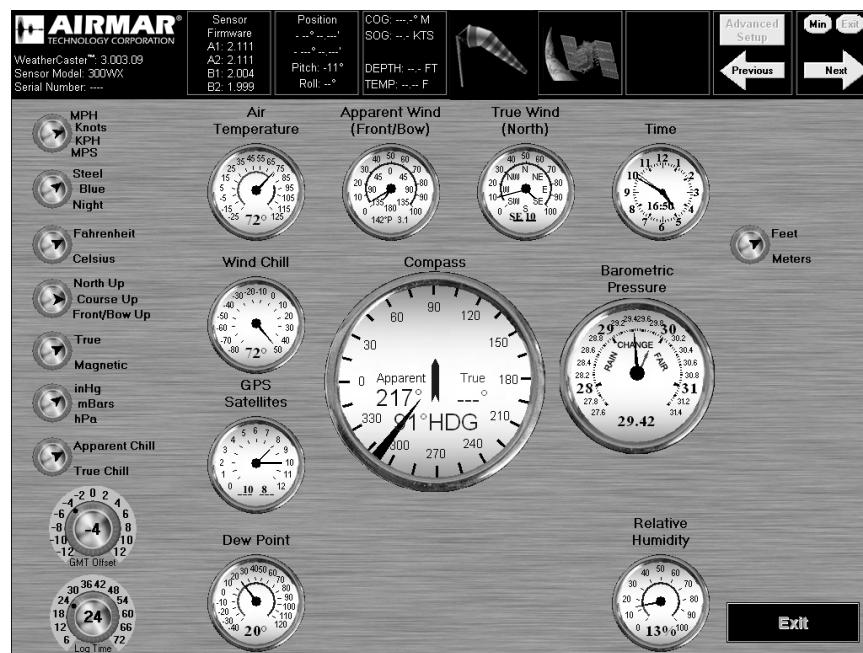

Figure 24. Setup Screen
When the WeatherCaster software opens, you will see a Setup screen with gauges and dials (see Figure 24). The gauges display the data being sent from the sensor in both analog and digital format. The dials along the left side are settings that can be changed by the user. *This screen is for setting up the display only.*
- Setup Screen—This screen contains gauges with dials along the left side. The dials have settings that can be changed by the user (see Figure 24).